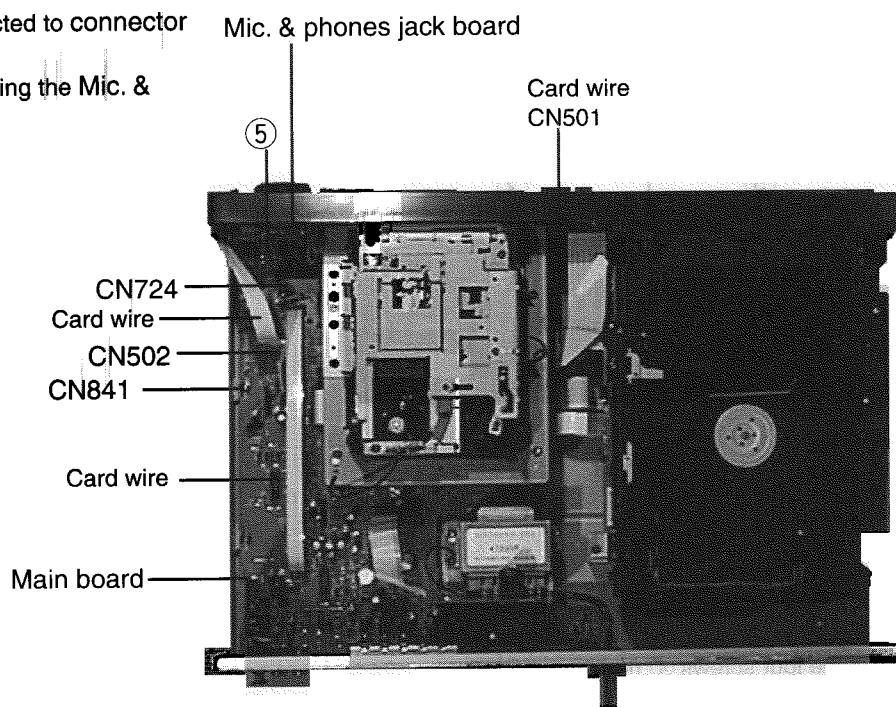

Fig. 5
■ Removing the Front Panel Assembly (See Fig. 5 ~8)
5. Remove the one screw ⑤ retaining the Mic. & phones jack board.